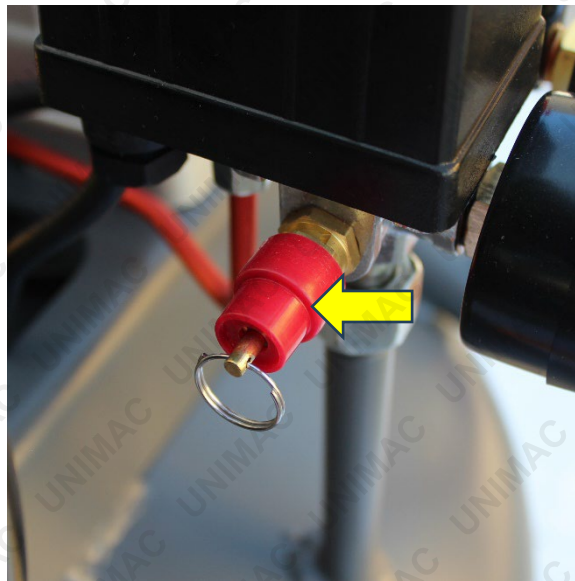

Figure 6: Safety valve
1. Locate the safety valve on the tank. The safety valve is shown below in Figure 6.